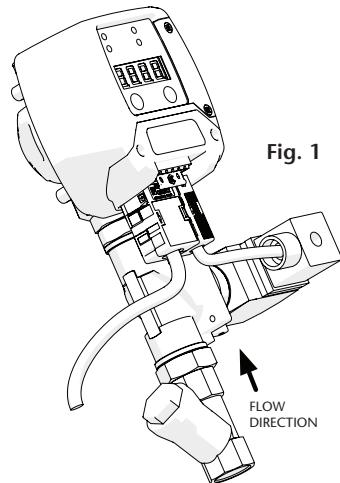

Fig. 1
CONNECTION TO HYDRAULIC SYSTEM (FIG. 1)
- In figure 1 a typical installation is shown, which may vary according to particular cases.